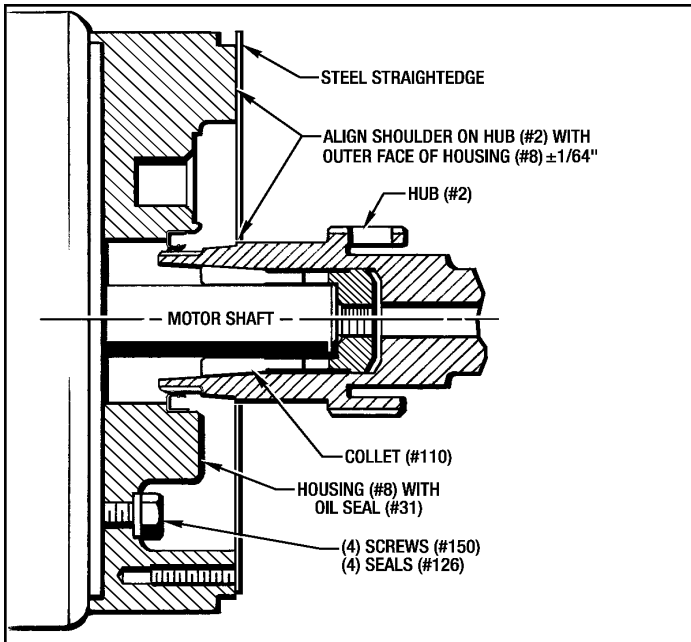
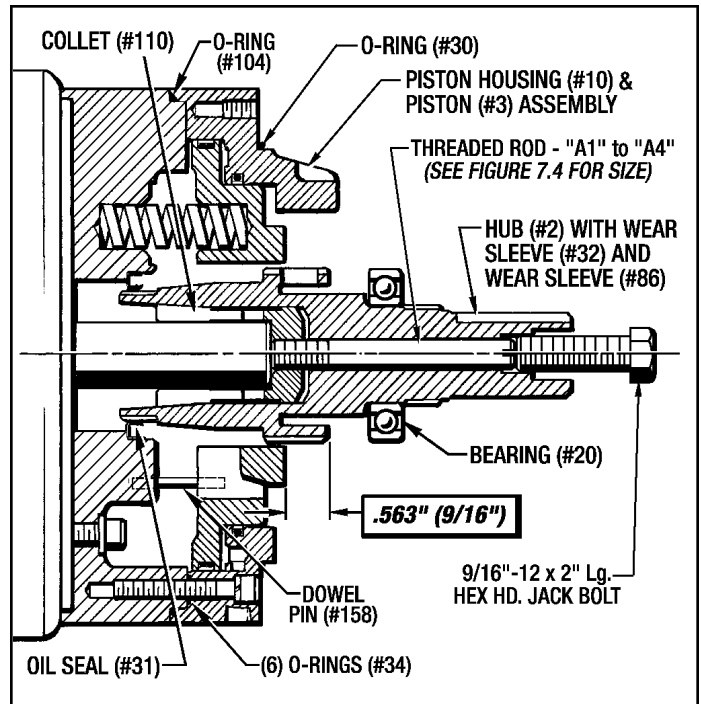

Figure 3.3 - Mounting Housing and Collet
Figure 3.4 - Installing Piston Housing Assembly & Hub
Place the Collet (#110) on to the motor shaft as far as it will go. (See Figure 3.3.)
- Slide the Hub (#2) over the Collet (#110) and into the Oil Seal (#31) as shown in Figure 3.3. If the Hub has an alignment shoulder, then align it with the outer face of Housing (#8) within  $\pm 1/64$ ". If the Hub doesn't have the shoulder then use the procedure in Step #10 & shown in Figure 3.4.
- Place the Springs (#36) back into the appropriate pockets. You can use white grease to hold the springs in place. (See Figures 3.4 and 9.2.)
- If the O-Ring (#104) was removed from the Housing (#8) then re-install it back on with a little White Grease to lubricate it. (See Figure 3.4.)
- Attach the Piston Housing (#8) and Piston (#3) Assembly with (6) Screws (#153) and (6) Lockwashers
(#127). Align the Pin (#158) in the Piston with the hole in the Housing **Torque to 14 Lb. Ft.** (See Figure 3.4.)
**NOTE -** Tighten these (6) Screws (#153) down in an even manner to compress the Brake Springs (#36) properly.
- Position the Hub (#2) so the end of the spline is **.563" (9/16")** from the Piston Face. (See Figure 3.4)
- Install the correct Threaded Rod "A" into the Collet (#110) approx. 4 or 5 turns. **Hand tighten** the Jack Bolt into the end of the Hub (#2) just until it makes contact with the Threaded Rod "A". **Do not tighten any further.** (See Figure 3.4 above.)
- Lubricate the other O-Ring (#30) with a little White Grease and install it on the Piston Housing (#10). (See Figure 3.4.)
16. Install the End Housing (#9) to the Piston Housing (#10) with (8) Screws (#72) and (8) Lockwashers (#128) and finalize the Position Alignment of the Hub (#2) with the **Same Procedure described in Section 9-10 & 9-11.**